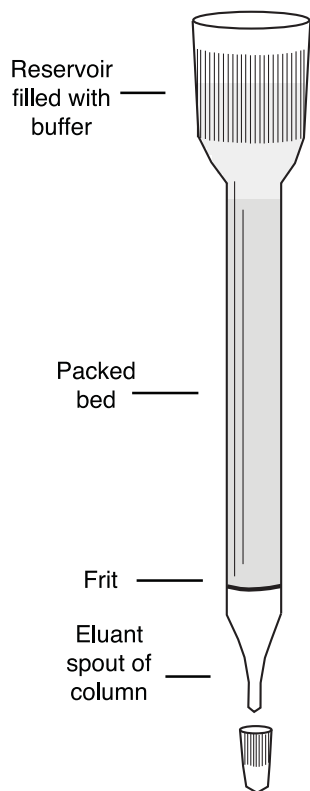

FIGURE 1:
1. Vertically mount a column as shown in Figure 1. Slide the cap onto the spout at the bottom of the column.